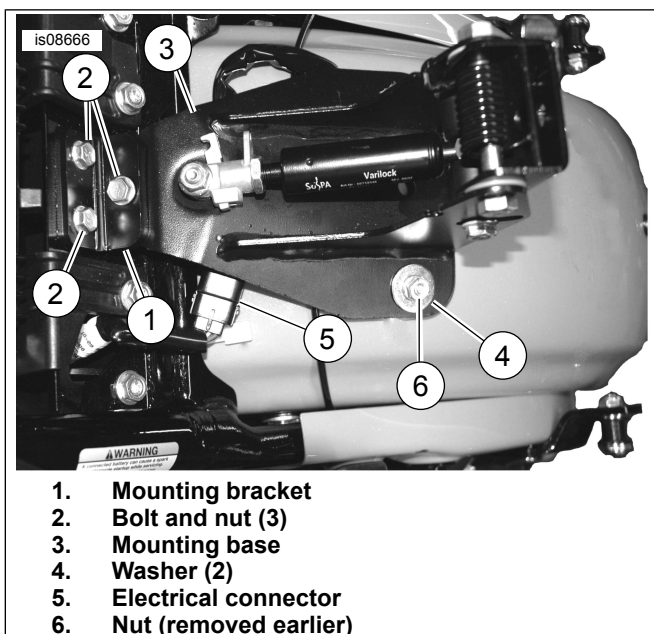
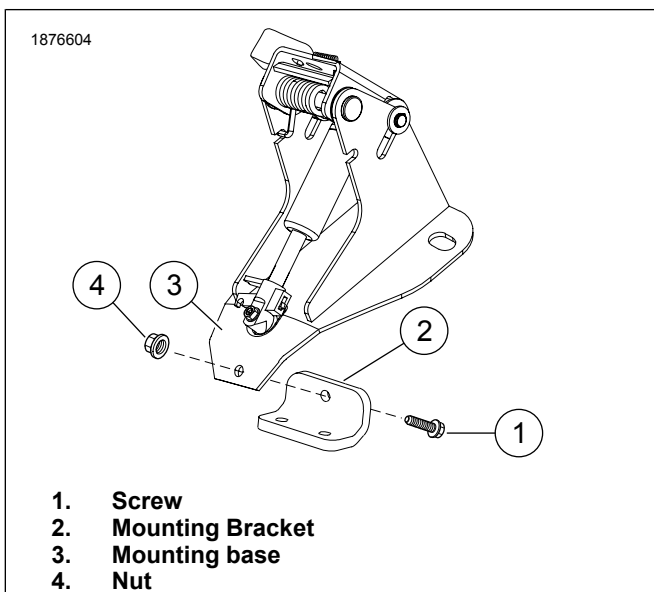

Figure 6. Install Backrest Bracket
Figure 7. Alternate Install Option for Mounting Bracket
6. See Figure 6. Set mounting bracket (1) in place and install screws and nuts (2) as shown. Leave fasteners loose. Verify electrical connector moves freely.
- a. See Figure 6 and Figure 7. If electrical connector (5) makes contact with mounting base (3), move mounting bracket (1) behind mounting base (3).
- b. Install screw (1) and nut (4).
7. Install washers (4) and nuts (6). Tighten.